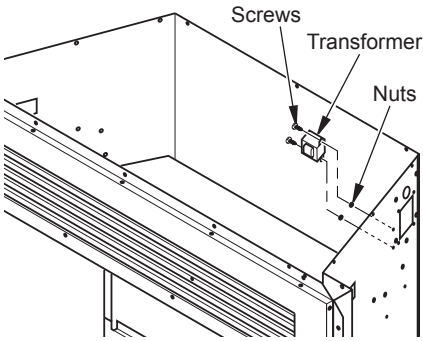

Figure 18 - Removing Transformer
3. Remove 2 screws from firebox surround to remove transformer (see Figure 18).